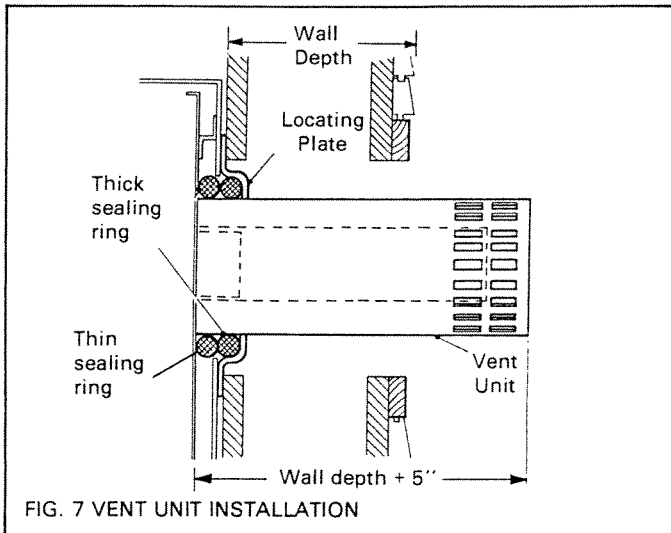

FIG. 7 VENT UNIT INSTALLATION
(See fig. 7)
- (c) Fit one thin and one thick soft ceramic sealing ring over the vent unit. The thin ring must be on the inside and the thick ring outside - see figs 7 & 9. Push the seals up to the back of the firebox.